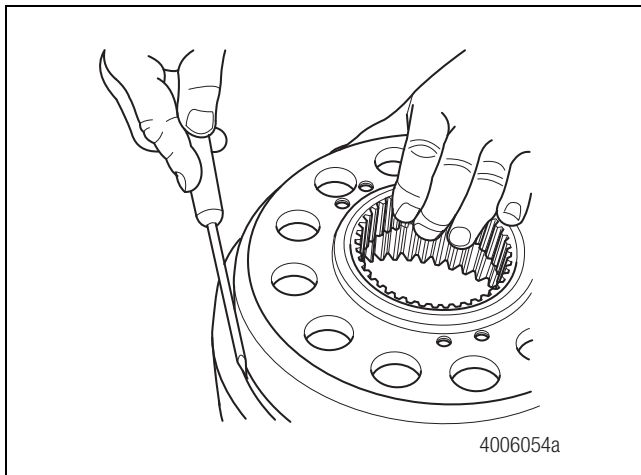

Figure 11.8
13. If the ring gear assembly was disassembled, reinstall the ring gear on the ring gear carrier and install the snap ring. Figure 11.8.